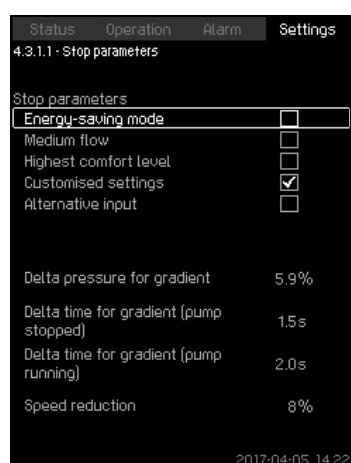

Fig. 72 Customised settings
- Select one of the stop parameters. If you select "Customised settings", you must set the parameters shown in fig. 72. See the examples below.